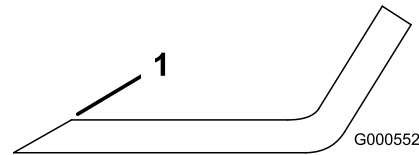

Figure 43
1. Use a file to sharpen the cutting edge at both ends of the blade (Figure 43). Maintain the original angle. The blade retains its balance if the same amount of material is removed from both cutting edges.